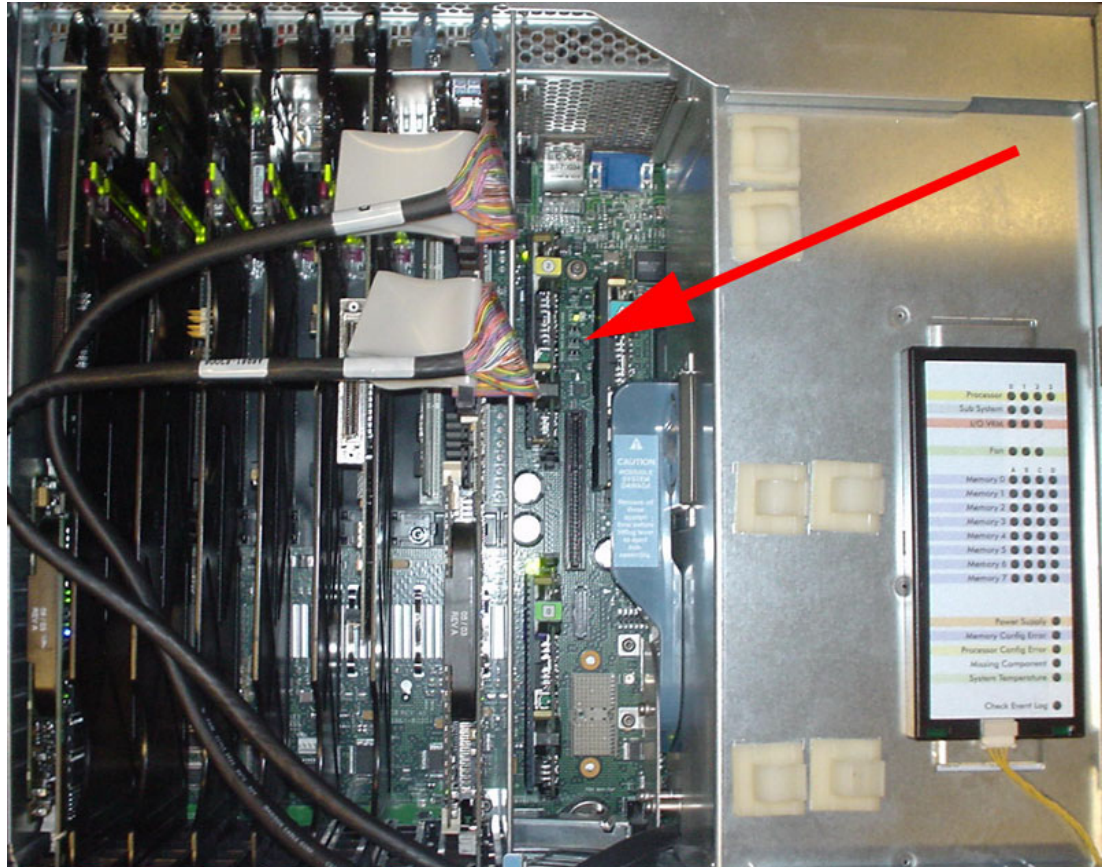

Figure 3. Location of a group of 3 jumpers on the rx4640 main board.
2. Locate a set of 3 jumpers directly above the brown edge connector socket (resembles an AGP slot) on the motherboard (Fig. 3).